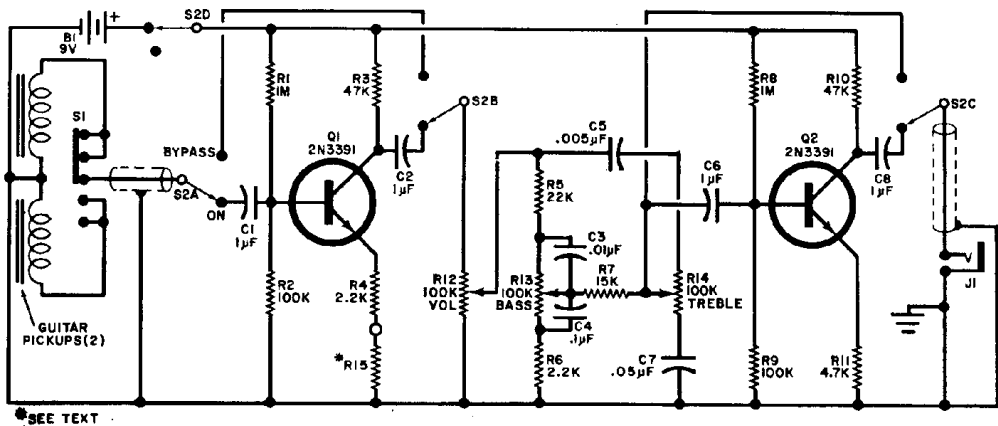

Fig. 1. Spectracom IGI™ circuit (patent applied for) is similar to discrete model.
**Circuit Operation.** The signal induced in the guitar pickup (Fig. 1) is coupled through *S1* and *C1* to the base of *Q1*, a preamplifier. Potentiometer *R12* is a volume control, while *R13* and *R14* provide bass and treble control.